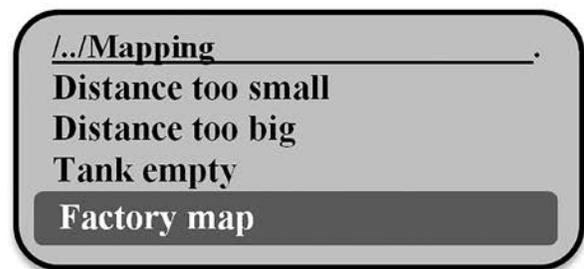

Figure 15
3. Then scroll down and highlight "Factory map" and press the 'E' key. (Figure 15)